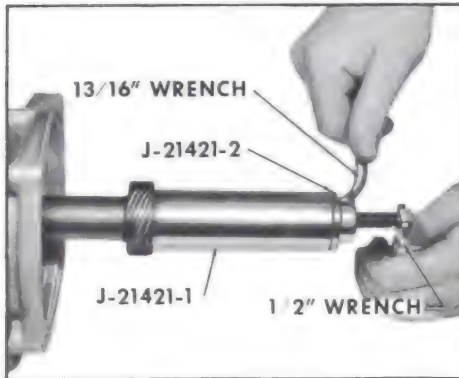

Figure 5-333
1. With transmission in a horizontal position install speedometer driving gear. Place transmission in Park range. Using tools J-21421-1 and J-21421-2 drive speedometer driving worm gear onto output shaft. Drive gear on until J-21421-2 bottoms on end of output shaft. When tool bottoms speedometer driving gear is in proper location. See Figure 5-333.